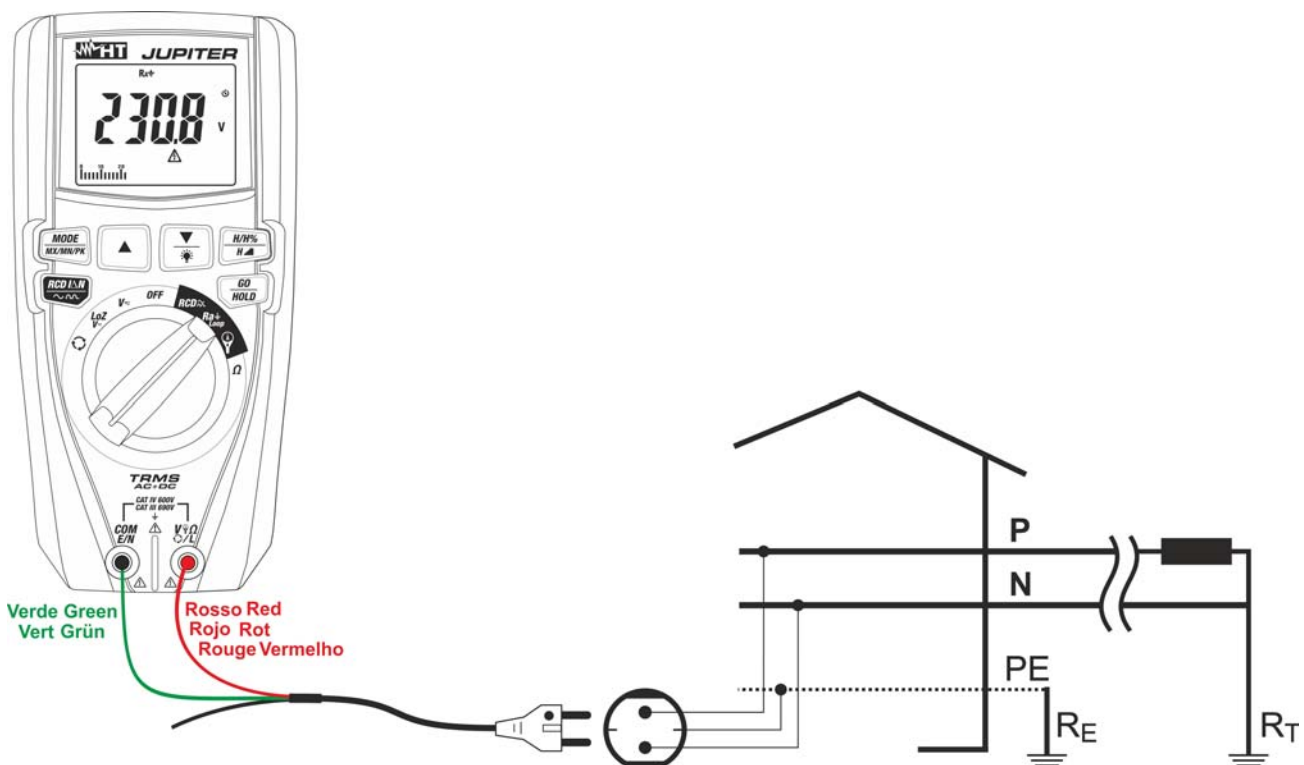

Fig. 23: Use of the instrument for measuring Loop L-PE impedance with cable provided with Schuko plug
5. **For Loop L-PE measurements**, in case the cable with Shuko plug is used, insert the red conductor into input terminal $V \Omega \Omega L$ and the green conductor into input terminal **COM/E/N** and connect the instrument to the system to be tested (see Fig. 23). The value of voltage Phase-Earth is shown on the display